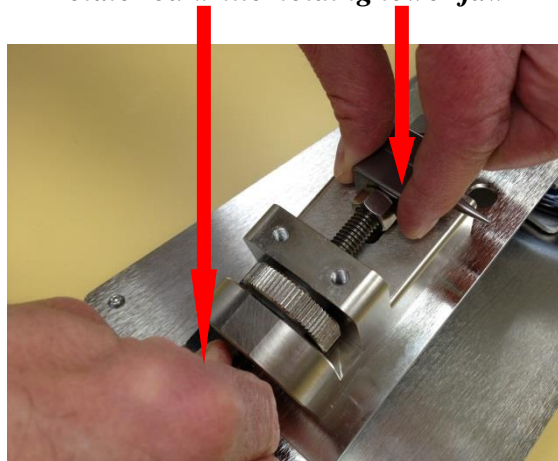

Figure 3.2.6
- Remove the **lock nut** and turn the threaded rod by hand and rotate threaded rod counter clockwise while holding the lower expander jaw until the jaw is removed. **Figure 3.2.6**